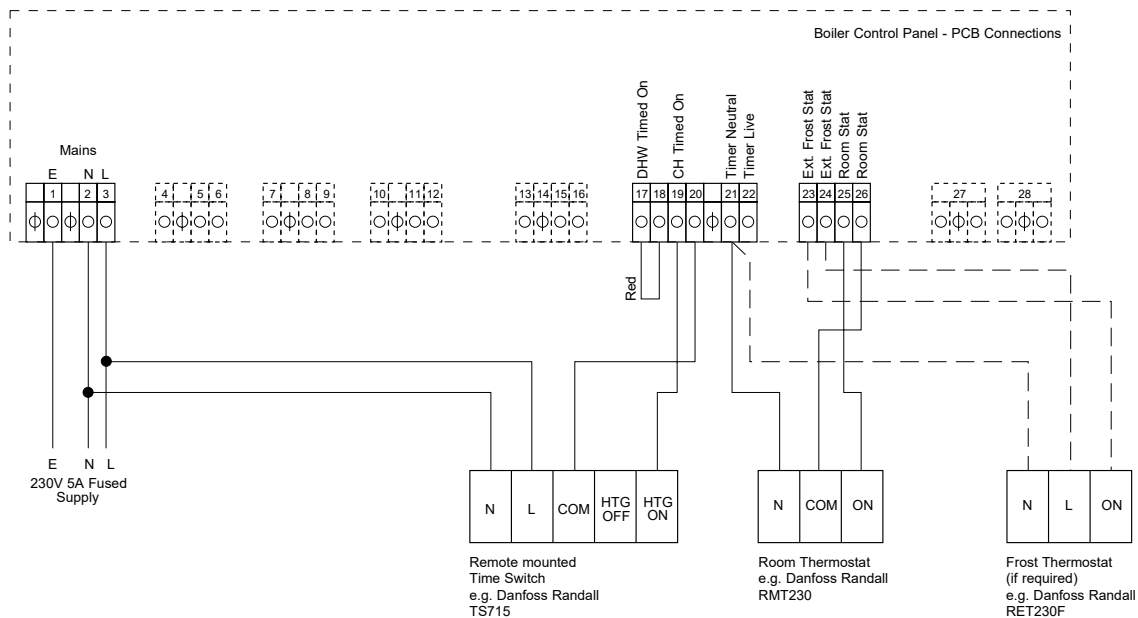

Figure 8-2: Connections for a remote timer and room thermostat
Any remote timer must be of a single channel 230V type with voltage free output contacts. Refer to Figure 8-2 for connection details.
6. Remove the Orange room thermostat link wire from terminals 25 & 26 on the connection block and connect the wires from the room thermostat. Refer to Figure 8-2 for further details
10. Connect the live, neutral (and earth if required) from the timer to terminals 3, 2 & 1 respectively on the boiler terminal block. Refer to Figure 8-2 for further details.
- Frost thermostat Neutral (N) to terminal 21 on PCB connector.
- Frost thermostat Live (L) to terminal 24 on PCB connector.
- Frost thermostat Switched Live-ON (3) to terminal 23 on PCB connector.
6. Refer to Figures 8-2 to 8-4 for typical connection of Remote Frost Thermostat.